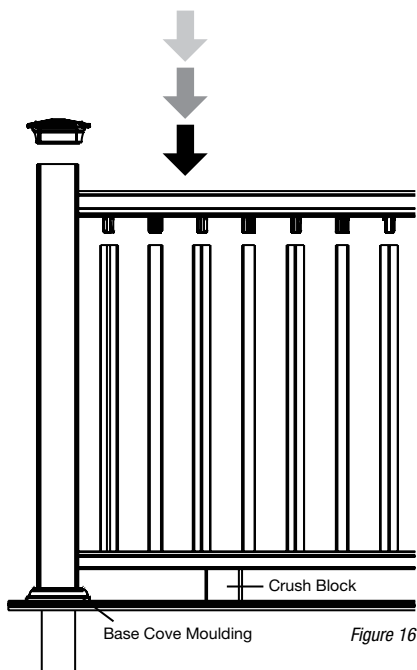

Figure 16
10. Cut the crush block to the desired height (consult local building official for the proper spacing between the deck and the railing). Place crush block on the deck surface midway between the posts (Figure 16).
19. Place the top rail between the post and above the top end of the balusters (Figure 16). Starting at one end of the rail, reposition top end of the baluster to allow the top baluster insert to engage it. Repeat for each baluster.
20. Once all of the balusters are engaged, gently push down on the top rail until the bottom end of the balusters contacts the bottom rail (Figure 16). The flange of the top baluster insert should be tightly secured between baluster and the underside of the top rail.